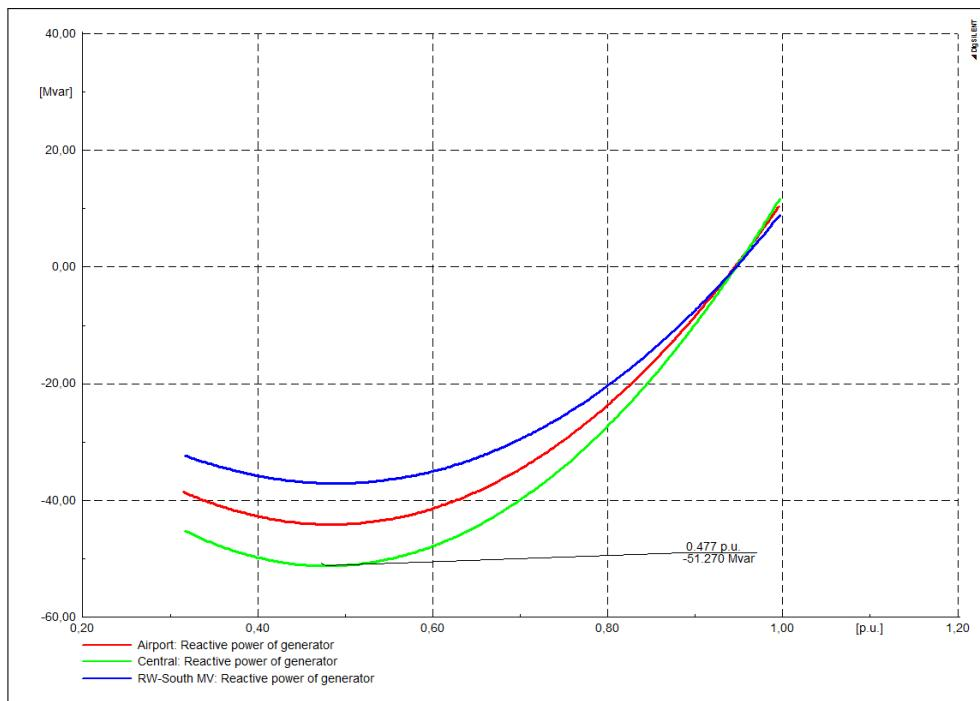

Figure 40.3.1: Network QV curves
When executing a QV Curves Calculation, the critical reactive power and voltage are reported in the output window. The reactive power (Q) and corresponding voltage drop (V), can then be plotted in a QV curve, as shown in Figure 40.3.1.